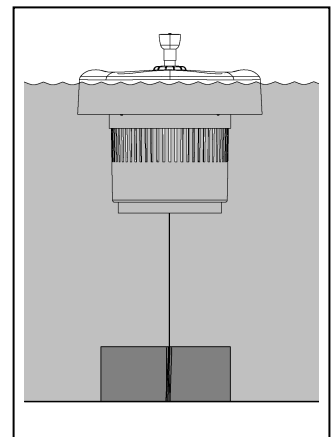

Fig. 2
2. If desired, anchor the Pond Boss™ in the pond using a heavy object (such as a rock) and some string. Cut a length of string slightly longer than the depth of the pond. Tie one end of the string to the anchor and the other end to the ring at the bottom of the float. Fig. 2